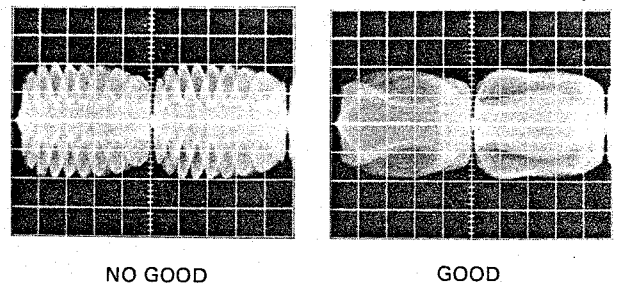

Fig. 6-4-13
- Adjust V. SIZE VR225 for minimum beat during the vertical period. (Fig. 6-4-13) Ideal condition is no beat, but one beat or envelope crossover is practical.